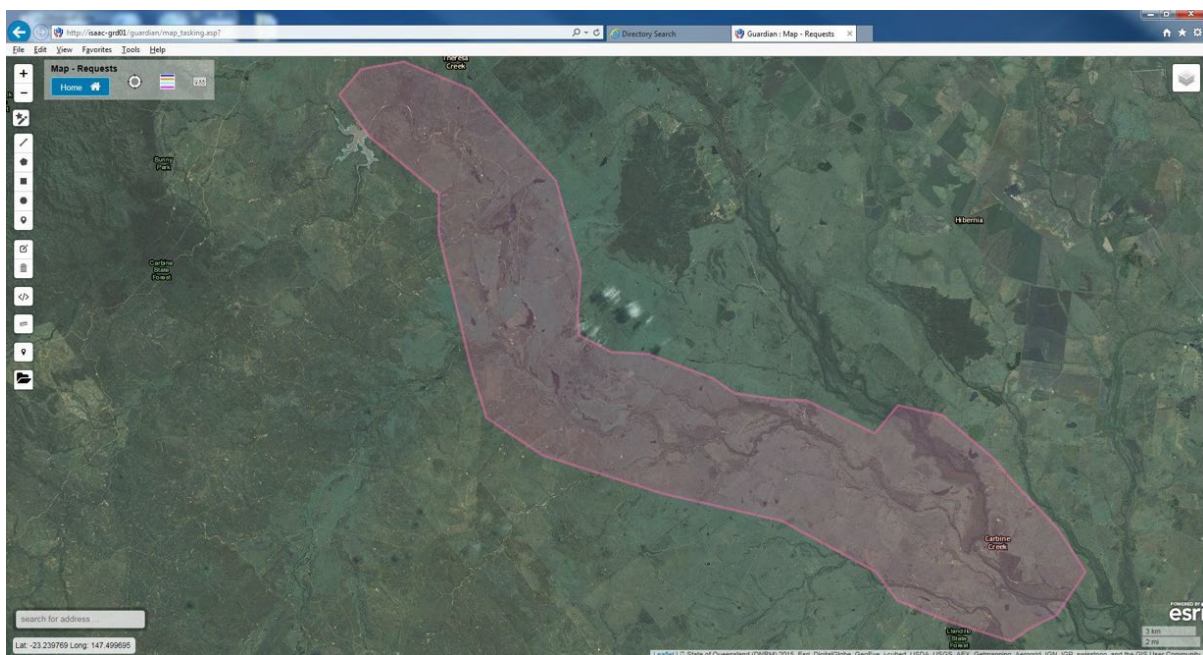

Figure 8-1 Population at Risk (PAR) region and "Emergency Alert" polygon (aerial photo). Theresa Creek Dam is at the western (upstream) end of the polygon.
- Emergency services can use “Emergency Alert” to send a warning message to mobile telephones based on the last known location of the handset and to all telephones based on registered service addresses. The website <https://www.qld.gov.au/alerts>.com presents alerts issued in Queensland. Refer to Figure 8-1 and Figure 8-2 for the Population at Risk region and polygon for “Emergency Alerts”.